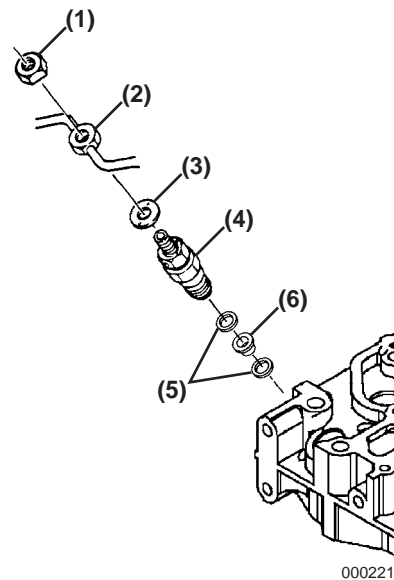

Figure 7-27
5. Remove nut (**Figure 7-27, (1)**). Remove the fuel return line (**Figure 7-27, (2)**) and copper washer (**Figure 7-27, (3)**) from the fuel injectors. See *Removing the Fuel Return Line* on page 7-11.
6. Remove the fuel injectors (**Figure 7-27, (4)**).
7. Remove the injector nozzle gaskets (**Figure 7-27, (5)**) and protector (**Figure 7-27, (6)**) from the cylinder head.